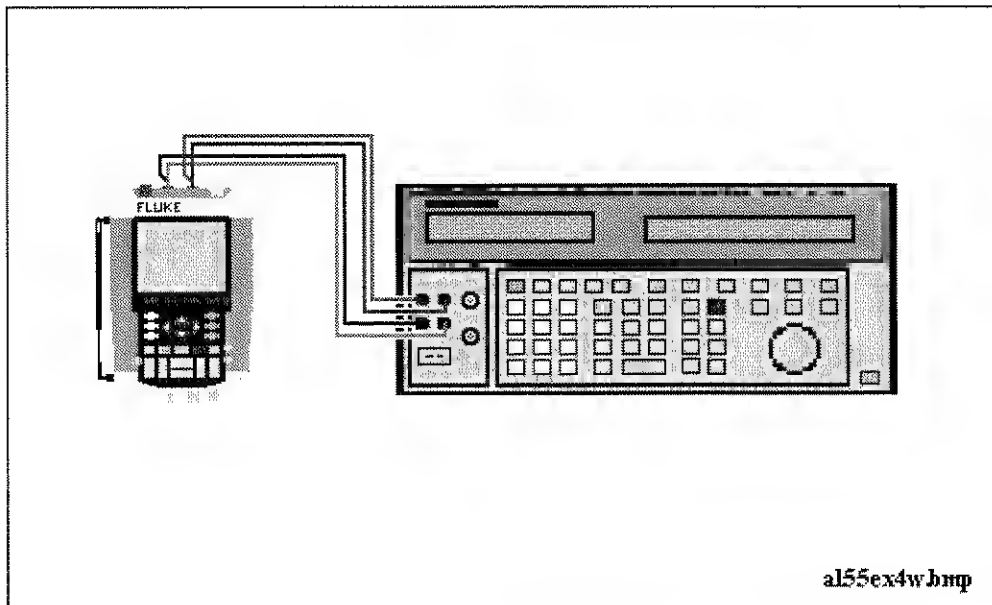

Figure 4-19. Test Meter Tool Input to 5500A Normal Output 4-Wire
1. Connect the test tool to the 5500A as shown in Figure 4-19.